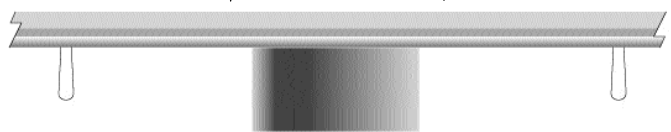

Figure 3 - Tube and tube socket order.
DO NOT ADJUST the controls represented in the shaded box shown in Figure 3 below. These controls have been factory set for the optimum performance (both sonically and electrically) of the SFL-2 Preamplifier. Do not adjust these controls - doing so will degrade the performance of the SFL-2. They may only be adjusted using specialized test equipment that only authorized service depots, distributors or the Sonic Frontiers factory have for this purpose.
5. Inspect the tube sockets in the SFL-2 Preamplifier for the codes matching the codes on the tubes. The coding is printed on the PCB circuit board beside the tube sockets. See Figure 3 for further clarification.